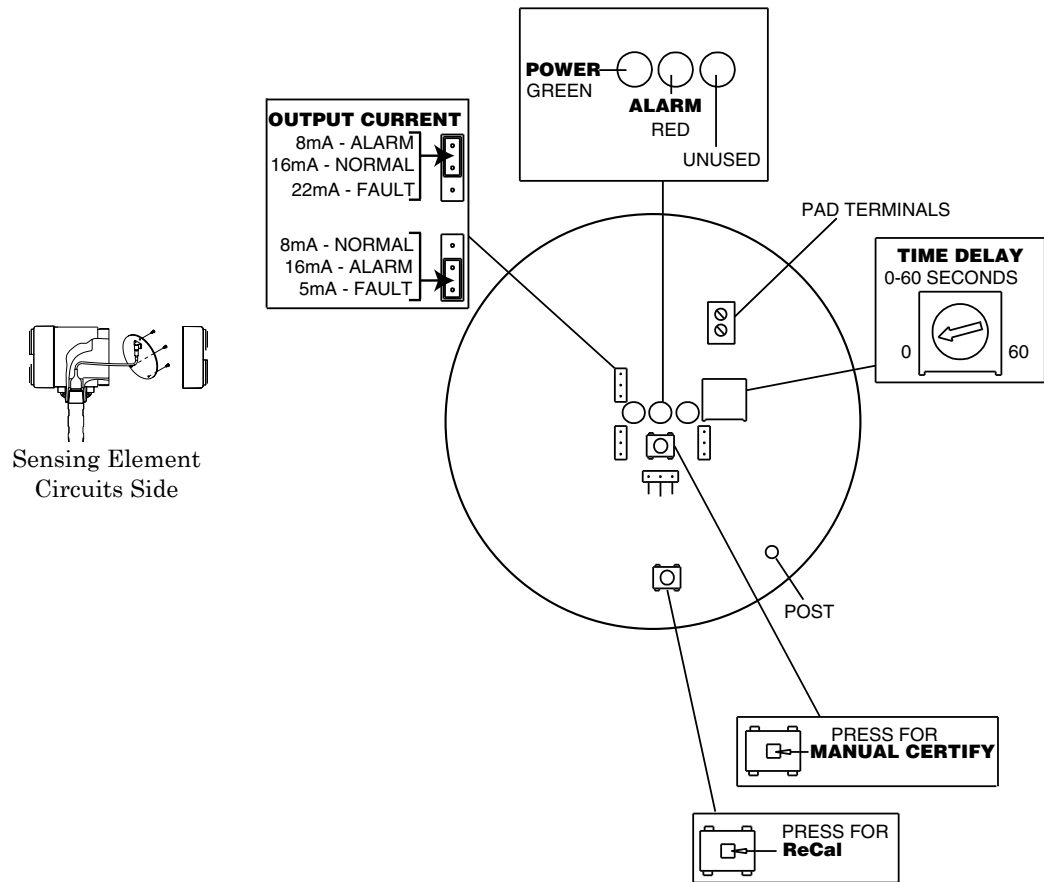

Figure 2-4
The circuit board is located on the sensing element/circuit side of the housing (marked on label). Remove the housing lid to access the status LEDs, time delay adjustment, and configuration jumpers. *See Figure 2-4.*
Merely press and hold the "ReCal" Button for 5 seconds (***Shown in Figure 2-4***). Green LED flashes for 60 seconds before reset occurs.
- Remove circuit board by gently pulling the post located at the lower right edge of the board. **See Figure 2-4.**